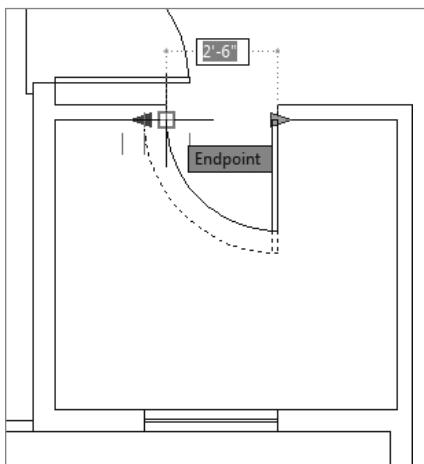

FIGURE 9.56 Resizing the dynamic block
12. Select the left arrow, and drag it up to the corner of the opening. Notice how the length of the door changes as well (see Figure 9.56).